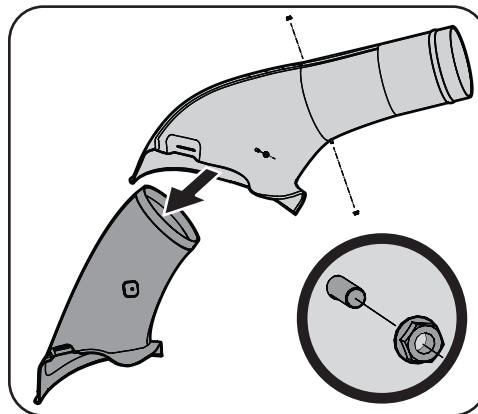

Figure 4-11
2. If your mower deck is 46", you will need to remove the 42" deck boot adapter that is pre-installed in this kit. Remove 3 nuts (712-0380) and 3 T30 screws (710-1193A) with the included T30 Wrench (727-05140). Slide out the boot adapter from boot. Re-install 3 nuts (712-0380) and 3 T30 screws (710-1193A), as shown in Figure 4-11.